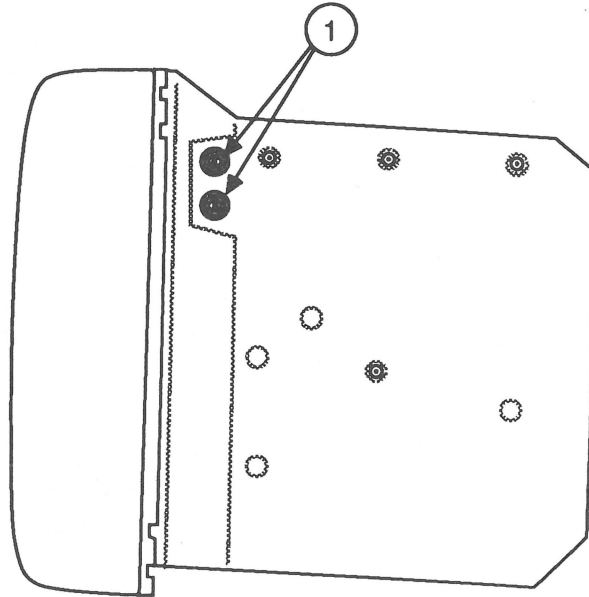

FIGURE 32
2. Replace the two hex nuts (Figure 32, #1) that secure the contrast-brightness assembly to the outside of the chassis frame.